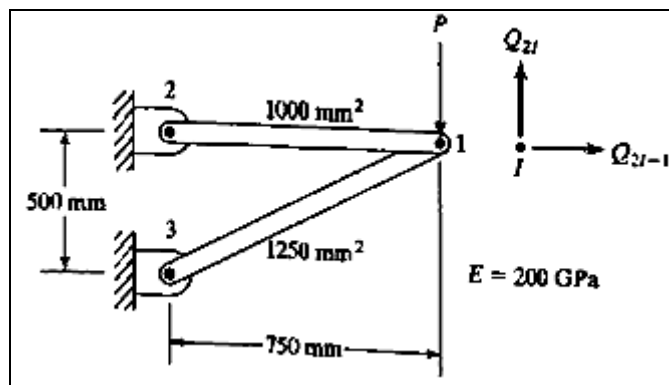

Fig.3.
5. a) For the pin jointed configuration shown in Fig.3. determine the stiffness values  $K_{11}$ ,  $K_{12}$ ,  $K_{22}$  of the global stiffness matrix. (CO3) 6M